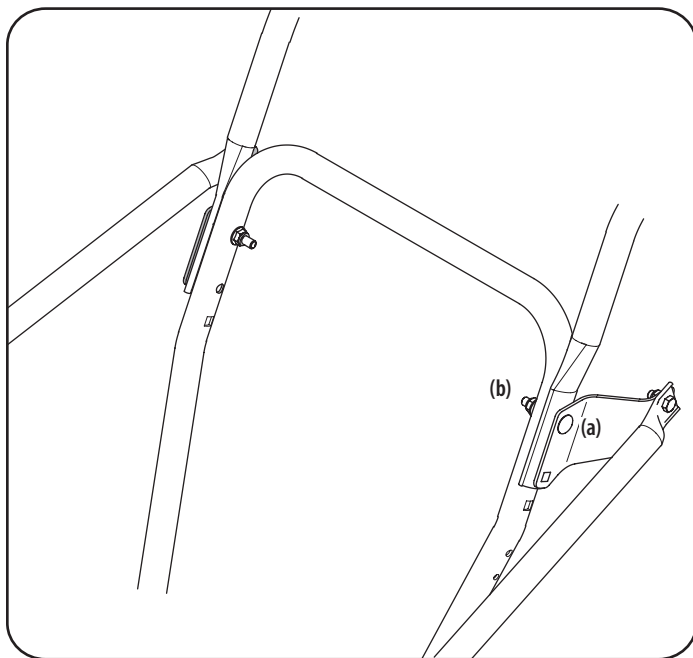

Figure 1
1. Loosen, but do not remove, the two upper carriage screws (a) and flange lock nuts (b) in the handle. Remove the lower carriage screw and flange lock nut. See Figure 1.